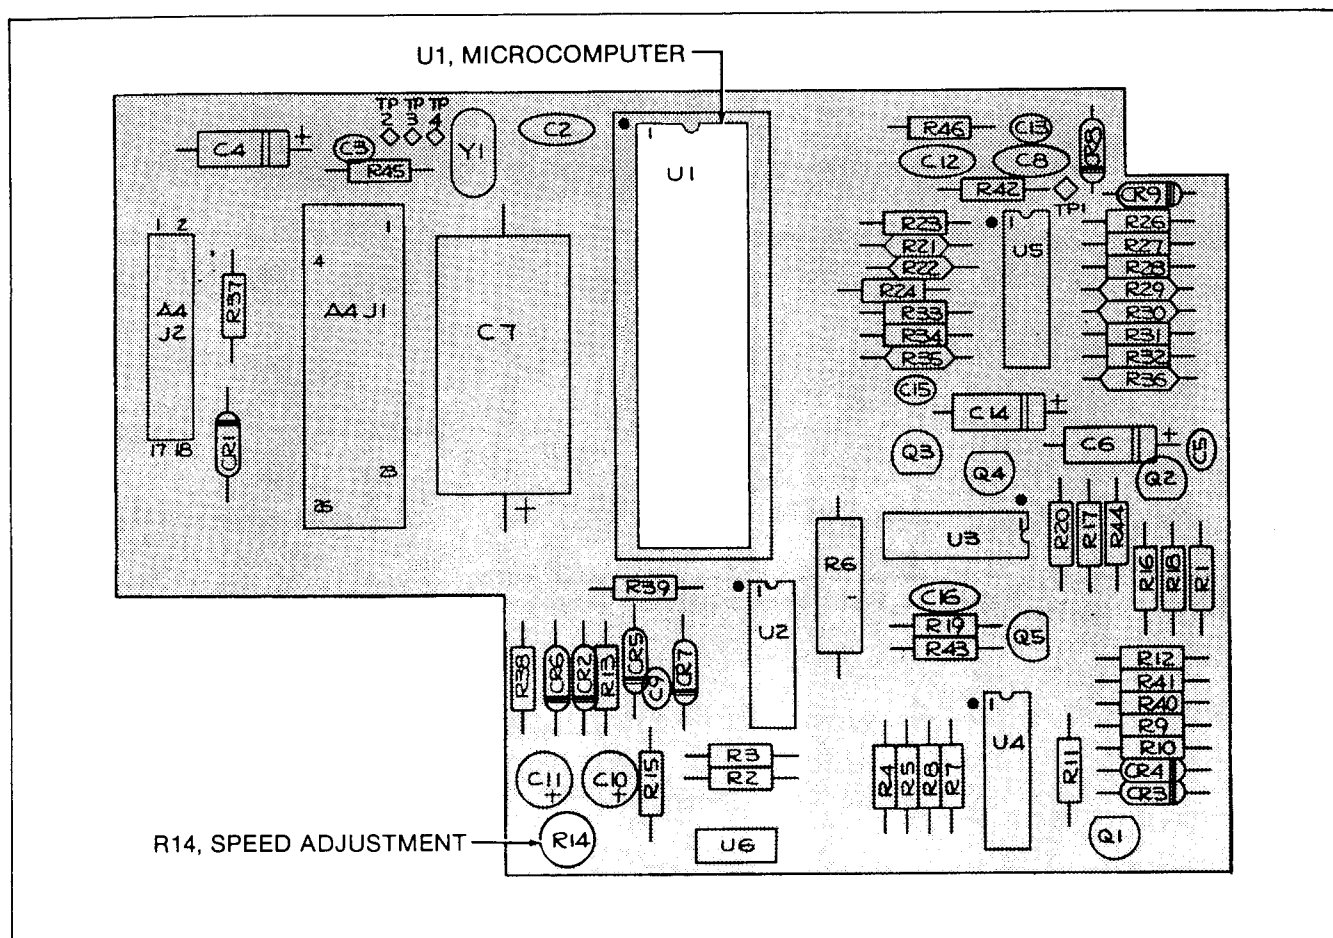

Figure 4-5. Tape Speed Adjustments
4. Observe the strobe disk while adjusting R14 (shown in Figure 4-5). The disk strobe lines appear motionless when proper speed is achieved.